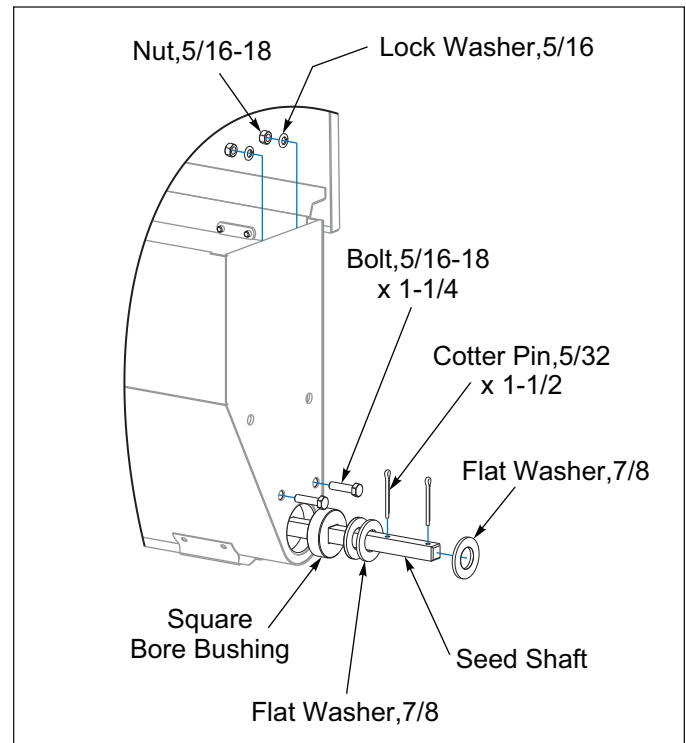

Figure 2-7: Agitator Installation
1. Remove the Cotter Pins from the RH end of the Seed Shaft. **See Figure 2-7.**